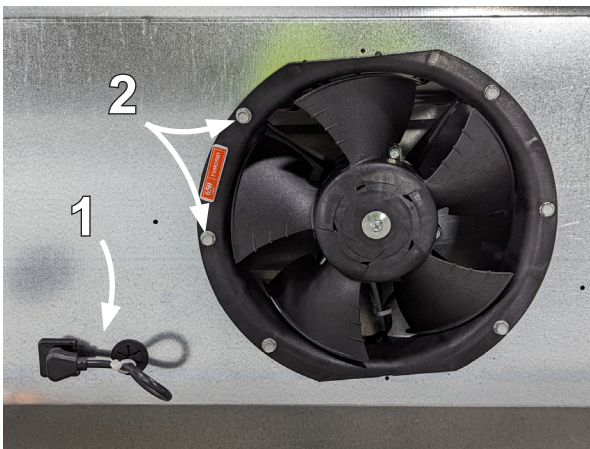

Fig. 7 Fan basket
1. Unplug the fan motor (Fig. 7), easily accessible outside the plenum. Be certain to push the power cord back through the plenum opening to avoid damage to the power cord.